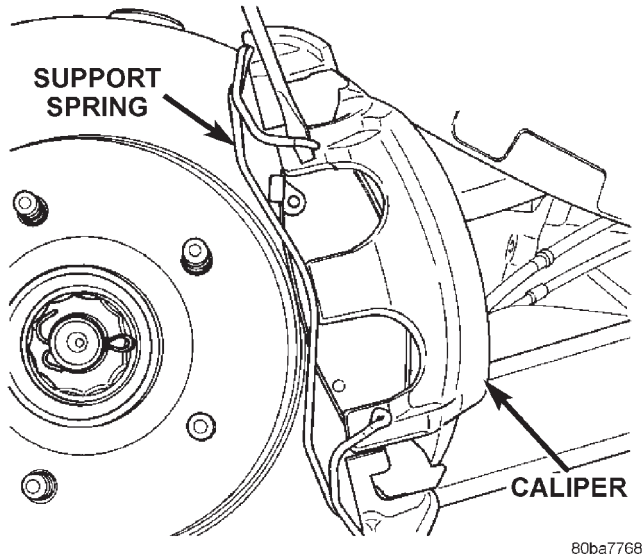

Fig. 28 Caliper Support Spring
- (5) Remove the caliper support spring by prying the spring out of the caliper (Fig. 28).